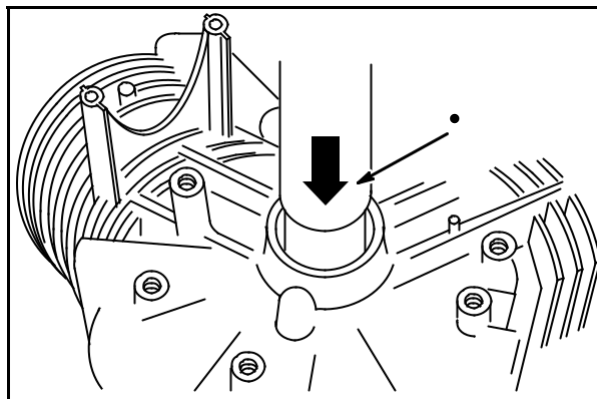

Fig. 7
Press out bearing with bushing driver (1), **Fig. 7**.
Place cylinder on Cylinder Support **#19227** with large opening facing bearing, **Fig. 7**.